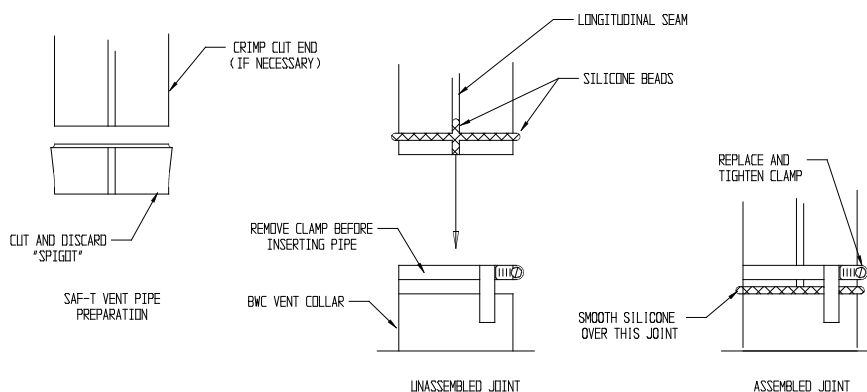

FIGURE 7.49: SAF-T VENT EZ SEAL CONNECTION TO VENT COLLAR
b) Connection to Boiler – Start assembly of the vent system at the boiler. Remove the hose clamp shipped on the BWC vent collar. Bend the three hose clamp tabs on this collar outward slightly. Cut the “male spigot” off of the first piece of pipe (Fig 7.49). If necessary, crimp the cut end of the pipe so that it can be inserted at least 1” into the collar. Clean the exterior of the male end of the first piece of pipe and the inside of the vent collar on the boiler with an alcohol pad. On the male end of the pipe, apply a ¼” wide bead of high temperature silicone approximately ½ inch from the male end of the pipe. Also apply a ¼” bead of silicone along the first 2 ½” of the longitudinal weld. Insert the male end of the pipe into the boiler vent collar until it bottoms out. Apply an additional bead of silicone over the outside of the joint and smooth out (Fig 7.49). Replace and tighten the clamp on the vent collar.